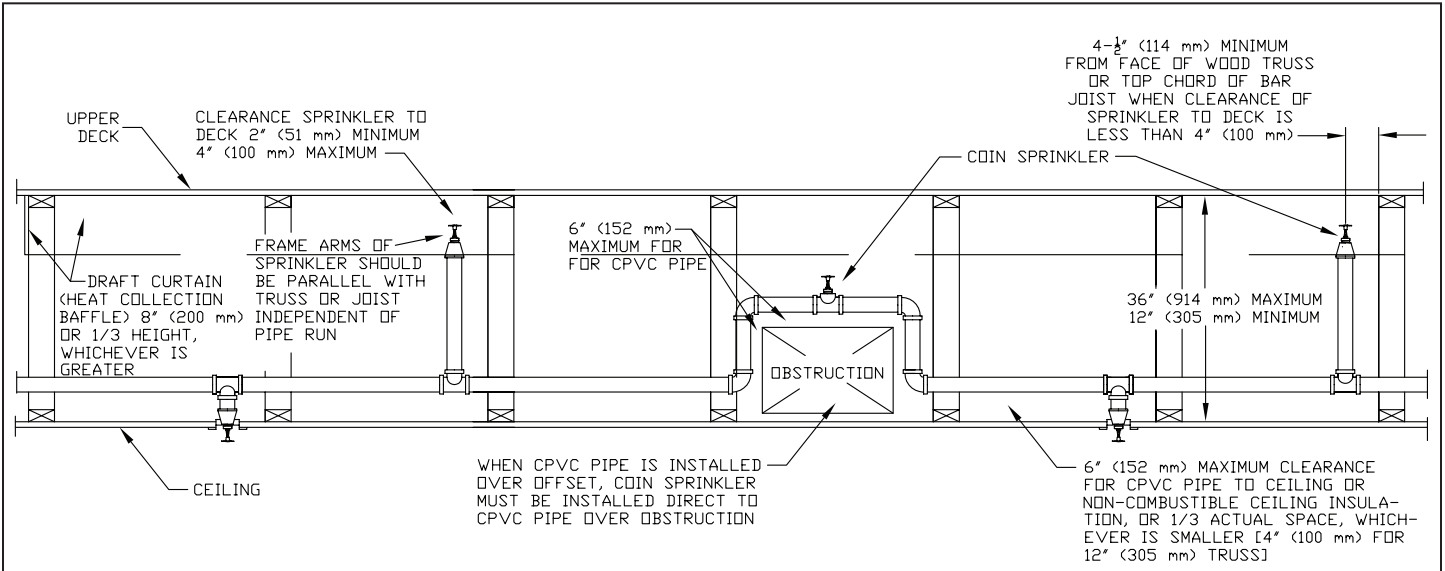

Figure 2: Wood and Steel Open Truss Construction Using CPVC Pipe (Cross Section View)
**DESIGN CRITERIA - CPVC PIPE** (See Figures 2 and 3)
Wood truss or non-combustible bar joist (Figure 2):
#### DESIGN CRITERIA - CPVC PIPE (See Figures 2 and 3)
Where CPVC pipe must be installed above the maximum distance of 6" (152 mm) or 1/3 of the total space, whichever is smaller, above the ceiling or non-combustible insulation when piping around obstructions, additional COIN® Sprinklers must be installed as shown in Figures 2 and 3 in order to protect the CPVC product.
Horizontal concealed spaces of solid wood joist construction with a roof pitch of 0/12 to 2/12 maximum. The upper joist is constructed of solid wood or composite wood with a maximum depth of 12" (305 mm) typically on center of 16" (400 mm) minimum spacing. Also, steel pipe may be applied in truss construction and solid filled non-combustible insulation in upper deck and wood or composite joist construction similar to that shown in Figures 2 & 3 with the exception of extra sprinklers are not required over obstructions. Also, there is no minimum clearance for supply pipe to upper joists.